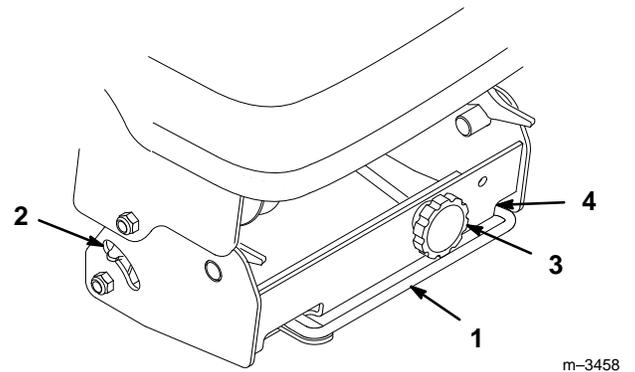

Figure 11
- Release the belt tension release arm on the pulley box housing and swing it out toward you (Fig. 11).
6. Loop the other end of the belt over the drive pulley of the mower. Additional belt slack can be obtained (if needed) by turning the belt tension adjustment knob (Fig. 11).
- C. If the tension indicators are not in the same position, release the belt tension, turn the adjustment knob and repeat steps A and B until the indicators move to the same position (Fig. 11).
- D. Once the indicators are in the same position, swing the tension release arm into the pulley box and seat it by moving it into the position shown in Figure 11.